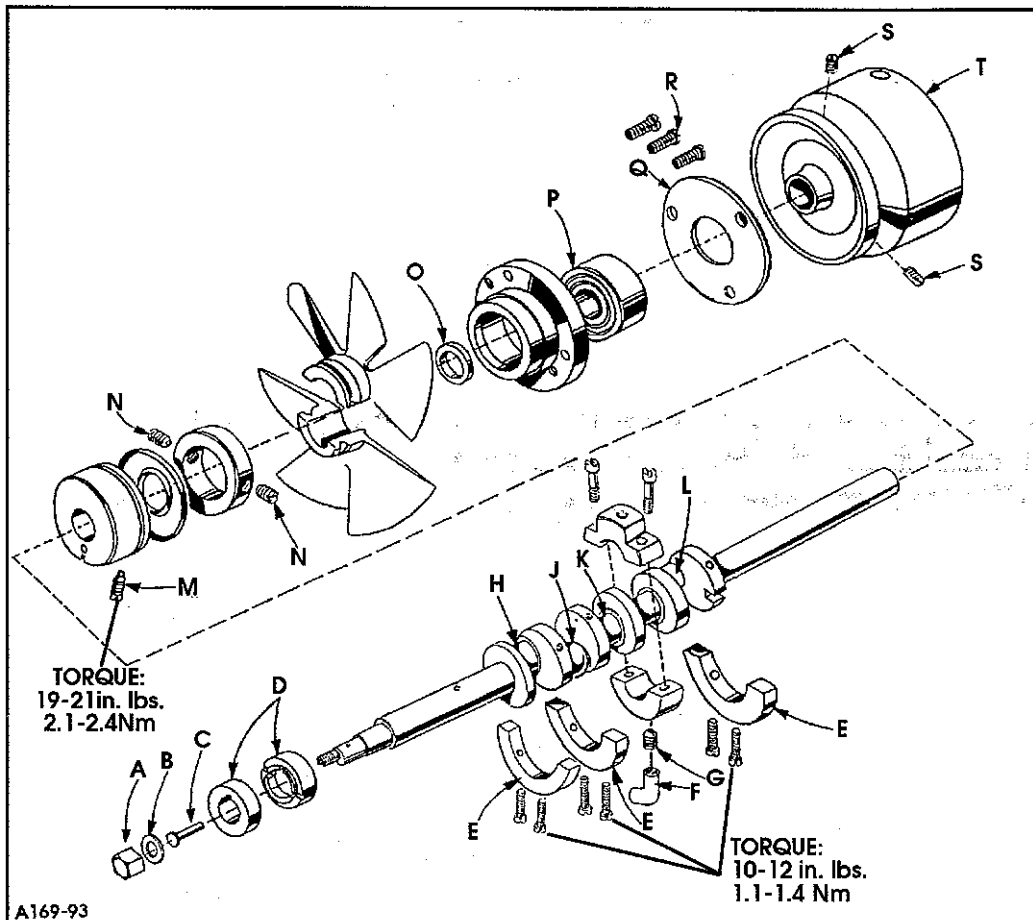

Fig. 21
3. Remove feed eccentric nut (A, Fig. 21) and washer (B) and metering pin (C). With the aid of the eccentric extractor, slip off eccentrics (D).
4. Remove three counterweights (E). Identify these counterweights so that they will be reassembled in their proper positions.
- Loosen clamp nut (A, Fig. 22) which holds upper knife driving arm (B). Access clamp nut (A) through the top cover. Draw driving arm (B) to the left until upper knife driving lever (C) and connecting rod (D) drop, allowing removal of bearing cap (E). This is at bearing point (K, Fig. 21) on crankshaft. Observe the same precautions when reassembling cap as described in Step 6.
- Remove oil return tube (F, Fig. 21) located on the bottom of the bed casting. Loosen set screw (G) which holds inner right crankshaft bearing, located on the bottom of the bed casting beyond the oil return tube.
- Loosen screws (M) & (N) in the fan collar and remove both halves of the cooling fan.
- Loosen screws (S) remove pulley (T).
- Remove screws (R) and take off bearing retaining plate (Q). Bearing (P) may be removed at this time.
- If necessary to replace ball bearing (P), it should be pressed off of the shaft on an arbor press. In replacing the bearing it must be pressed on carefully until it seats against ground thrust washer (O), or use Union Special pulling tool numbers 4196301 and 4196303 for removal and replacement.